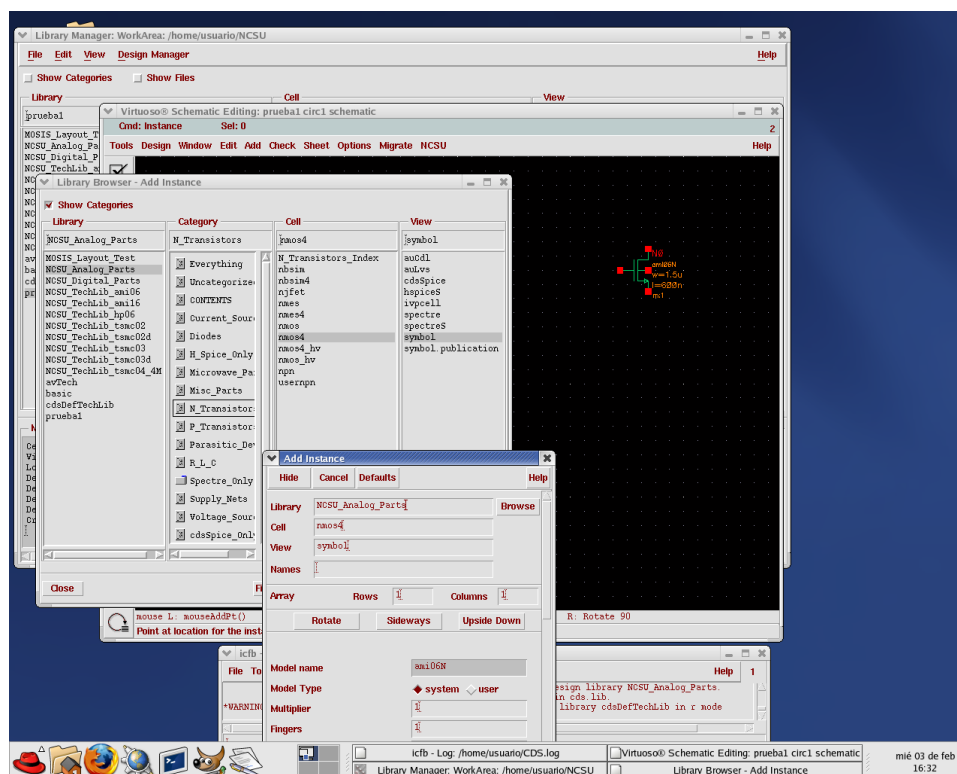

Figure 7. Adding instances in the schematic window.
- Create components:** by selecting the **Instance** icon and browsing in the pop-up window through the different libraries. Most components (transistors, R, L, C, sources, rail terminals, etc.) are in the *NCSU_Analog_Parts* library. When an instance of a certain component is created (e.g. transistor, R, C, etc.) a window appears where you can select the properties of this element as in Fig. 7. *Note that for transistors, the model is automatically set according to the technology you have selected, and that some parameters (drain and source area and perimeter, etc) are automatically calculated. NOTE: There are three-terminal (nmos, pmos) and four-terminal (nmos4, pmos4) MOS devices available. The three-terminal devices have a hidden fourth (bulk) terminal, which is connected by default to "gnd!" for nmos and "vdd!" for pmos. This means that you need to have nets named "vdd!" and "gnd!" somewhere in your schematic. (The easiest way to do this is to drop in the vdd and gnd pins from NCSU_Analog_Parts->Supply_Nets.) If you don't have these nets in your schematic somewhere, you'll get complaints about unknown nets either in the netlist or in LVS. (You can also change the bulk node in the three-terminal device if you want to. Just select the device in the schematic, and bring up the "Edit Object Properties" form (Edit->Object->Properties...). Change the "Bulk node connection" field to whichever net you want.*